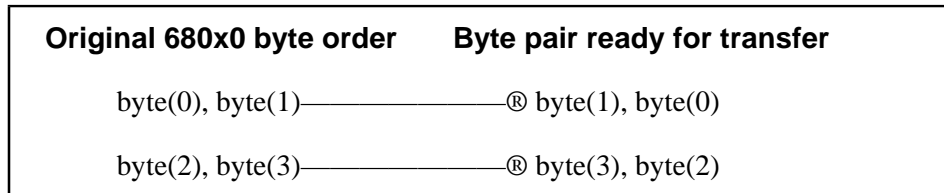

Figure B.5 Transferring Bytes
If the data being transferred are bytes, it is evident that the byte pairs byte(0), byte(1) or byte(2), byte(3) end up in the wrong order in TMS34010 memory. The solution is to swap the order of the bytes before the byte pair is transferred across the VMEbus as shown in Figure B.5.